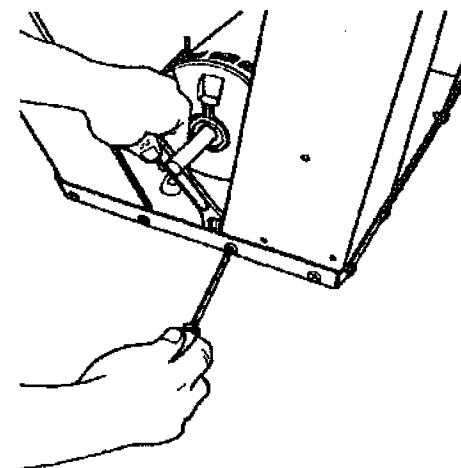

Fig. 16
22. Use a 1/2" wrench and a screwdriver to securely tighten all the nuts attaching the legs to the top panel, as seen in Fig. 16. Then securely tighten the nuts attaching the leg braces.